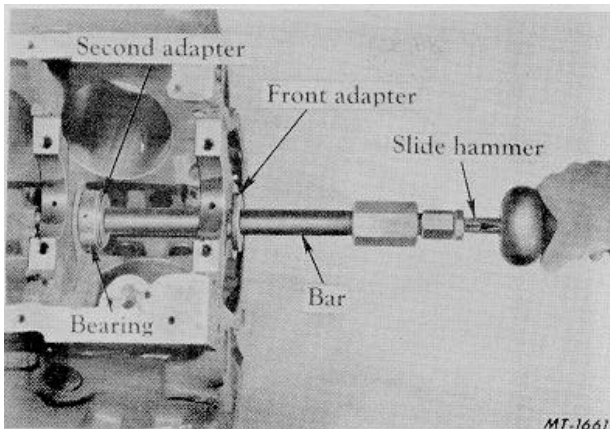

Fig. 67 Removing Second Bearing
6. Position the front adapter SE-1897-7 in the front bearing with the flange toward the front of the block, Fig. 67.
7. With the second adapter still in position, install the bar through the adapters and lock the second adapter on the bar with "C" washer, Fig. 67.
8. Using the front adapter as a pilot, pull the second bearing with the slide hammer, Fig. 67. **NOTE** Always hold the adapter firmly against the bearing being removed or installed to avoid damage.